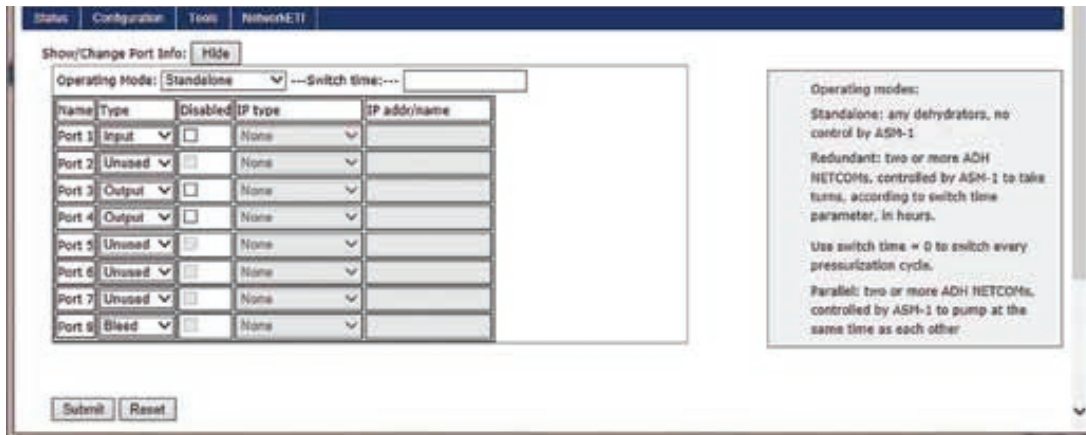

FIGURE 19. Port Information Screen.
3. From the Configuration tab, click the "SHOW" button next to the "Show/Change Port Info" to select and access Port Information (Figure 19). On this page, configure each of the eight ports as Input, Output, Critical Output, Unused, or Bleed. Because the ADH NETCOM supplies the dry, pressurized air used by the system, that is considered an input and should be connected to Port 1, factory configured as an Input port. As each ADH NETCOM dehydrator or input unit is configured, indicate on each line the IP address or network name you will enter later for that dehydrator. It is important to configure as Unused any port to which no dehydrator or equipment line is connected. This will keep the system from exhibiting symptoms of a leak when there is, in fact, no leak present.